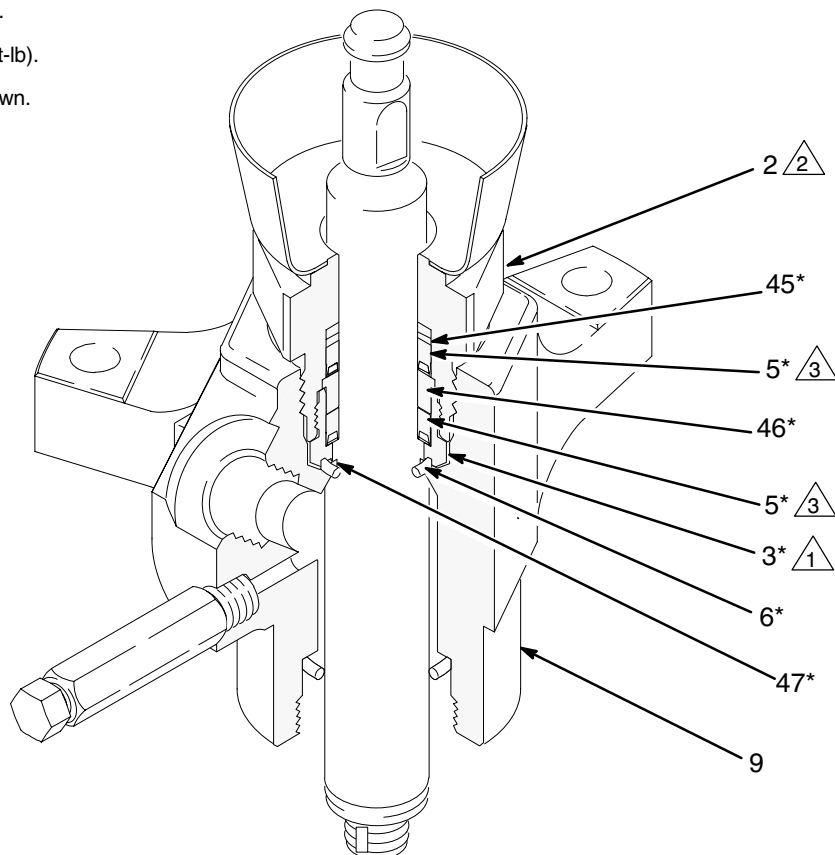

Fig. 17
2. See Fig. 17. Unscrew the packing nut (2) using a pipe wrench. Remove the o-ring (6) and washer (47) from the bottom of the packing housing (3) or from the outlet housing (9).
3. Place the flats of the packing nut (2) in a vise. Unscrew the packing housing (3) and discard it and the packings. Remove the washer (46), seal (5), and backup washer (45) from the packing nut.
4. The throat repair kit is preassembled. Screw the kit into the packing nut (2), making sure that the backup washer (45*), seal (5*), and washer (46*) are properly positioned on top of the packing housing (3*), with the lips of the seal facing down. Torque the packing housing (3*) to 97–106 N.m (71–78 ft-lb). See Fig. 17.
6. Screw the packing nut (2) into the outlet housing (9). Torque to 190–217 N.m (140–160 ft-lb).